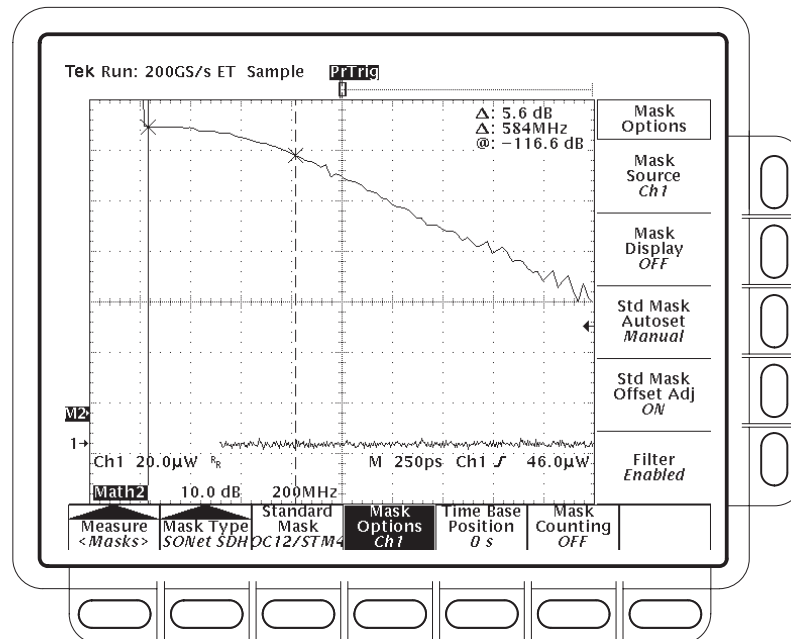

Figure 4–45: Optical impulse response for OC–12 SONET Reference Receiver
- e. Position the other cursor at the bit rate (the frequency closest to the bit rate) of the mask that is turned on (see Table 4–11 and Figure 4–44).
NOTE. In Figure 4–45 the left cursor has been moved to the zero dB level. The right cursor remains at the OC–12 data rate of 622 MHz \pm 4 MHz (the delta frequency is 584 MHz because the right cursor is no longer referenced to DC). The delta attenuation from the zero dB level to the 622 MHz Cursor is 5.6 dB.